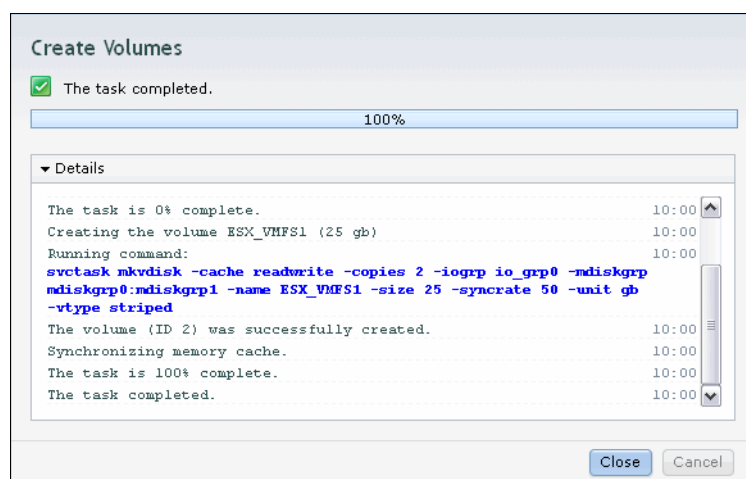

Figure 5-15 Create a mirrored volume
- Click **Create and Map to Host** and the mirrored volume is created, as shown in Figure 5-15.